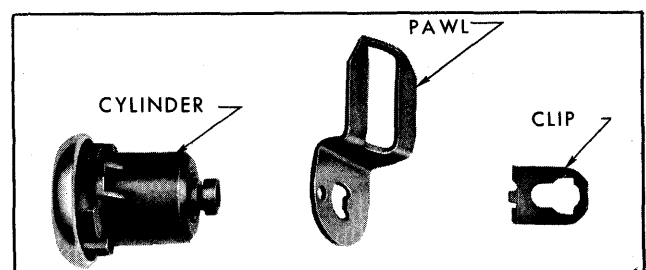

Fig. 5-30-Door Lock Cylinder Assembly
2. With a pointed tool, disengage pawl retaining clip and remove pawl (Fig. 5-30).